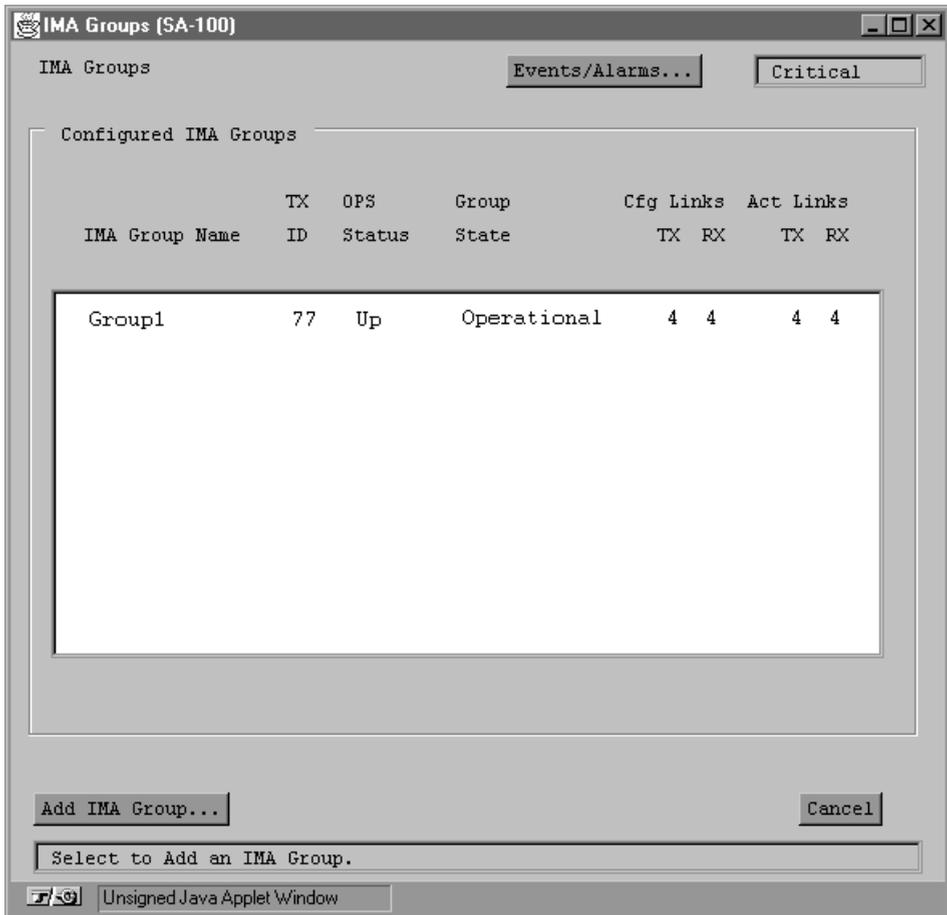
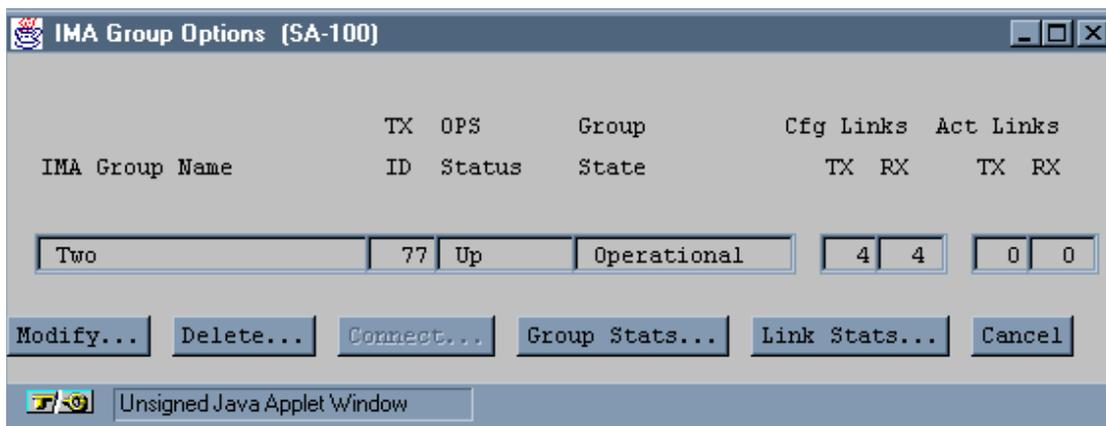

Figure 4-8. IMA Groups Window
Figure 4-12. IMA Group Options Window
1. Select an IMA group from the list of Configured IMA Groups in the IMA Groups window (Figure 4-8). The IMA Group Options window appears (Figure 4-12):
1. Select the IMA group to delete from the list of Configured IMA Groups in the IMA Groups window (Figure 4-8). The IMA Group Options window appears (Figure 4-12).